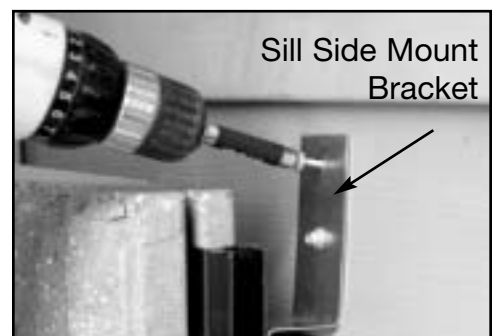

Fig. 6
**outside of the home:** It is attached to the side of the home and is screwed into the floor joist. There is a slot in the Sill bracket that allows it to slide up and down on the backside of the I-Beam. Like the Sill Joist bracket, you will need to use the concrete sill in this application. (Fig. 6)